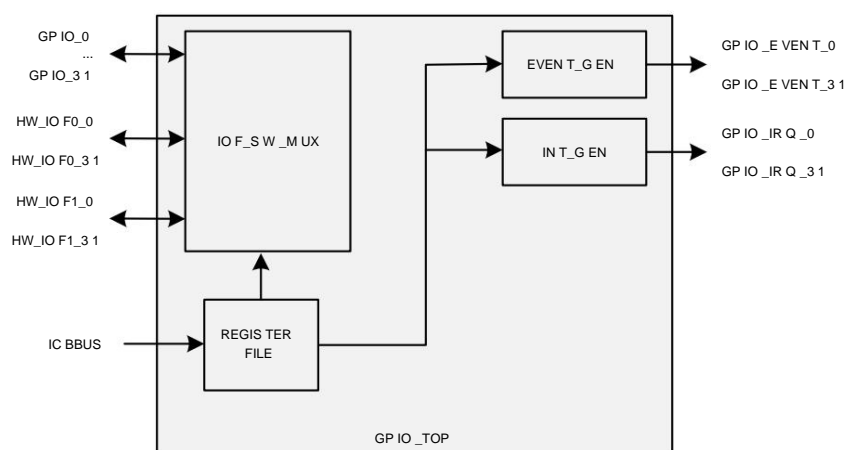

Figure 9-1 GPIO data flow
- For example, SPI, UART, etc. The multiplexing and allocation of GPIO by SoC internal modules is shown in Figure 9-1, where each I/O can be multiplexed by two internal modules, and the software can select the signal source by configuring each I/O to select IOF0 or IOF1.